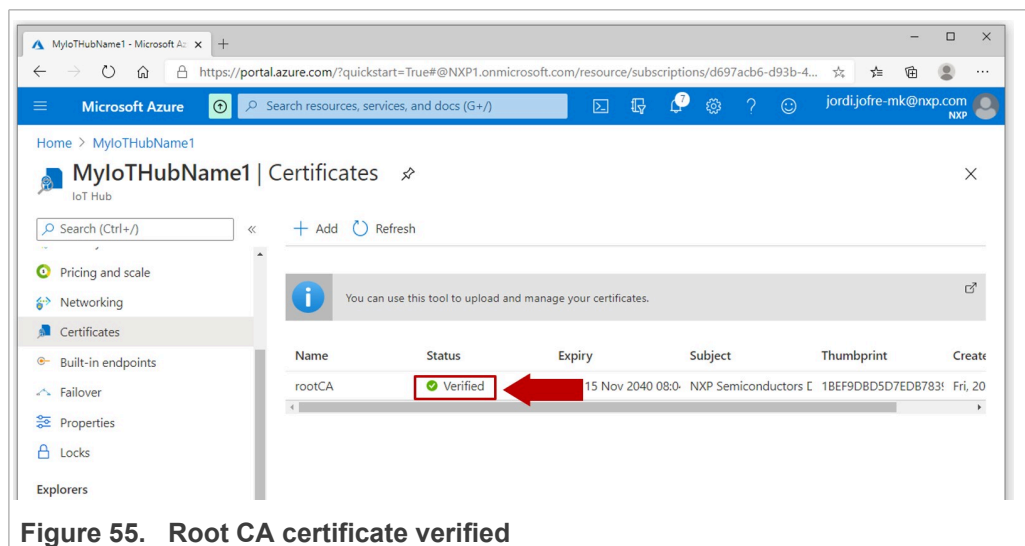

Figure 55. Root CA certificate verified
2. Check that the proof of possession verification was successful. The certificate should have changed its status to **Verified** as shown in Figure 55. The registration of the OEM's root CA certificate is a one-time process.